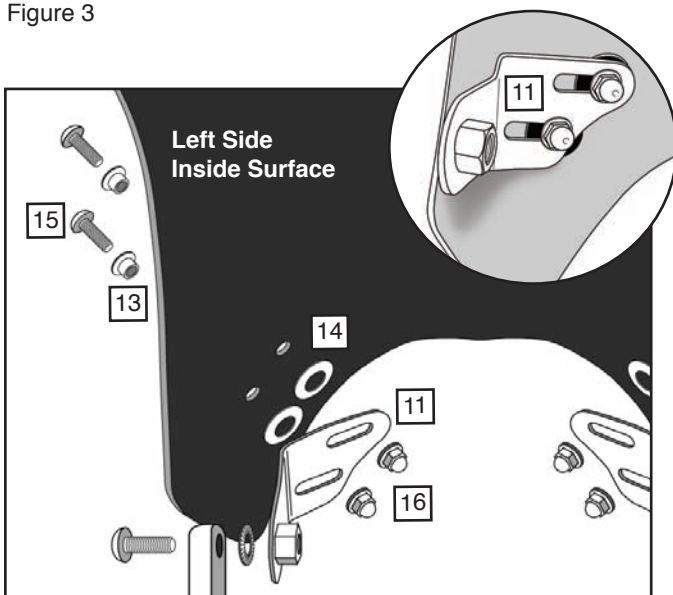

Figure 4
6. Install 1, Washer (14) over each hole in the Screen. **Figure 4**
7. Select the Left Bracket (11) and install to the Left, Inside surface of the windscreen using 2, Collars (13), 2, Screws (15) and 2, Nuts (16) as shown in **(4mm Hex Wrench and 10mm Socket) Figure 4.**